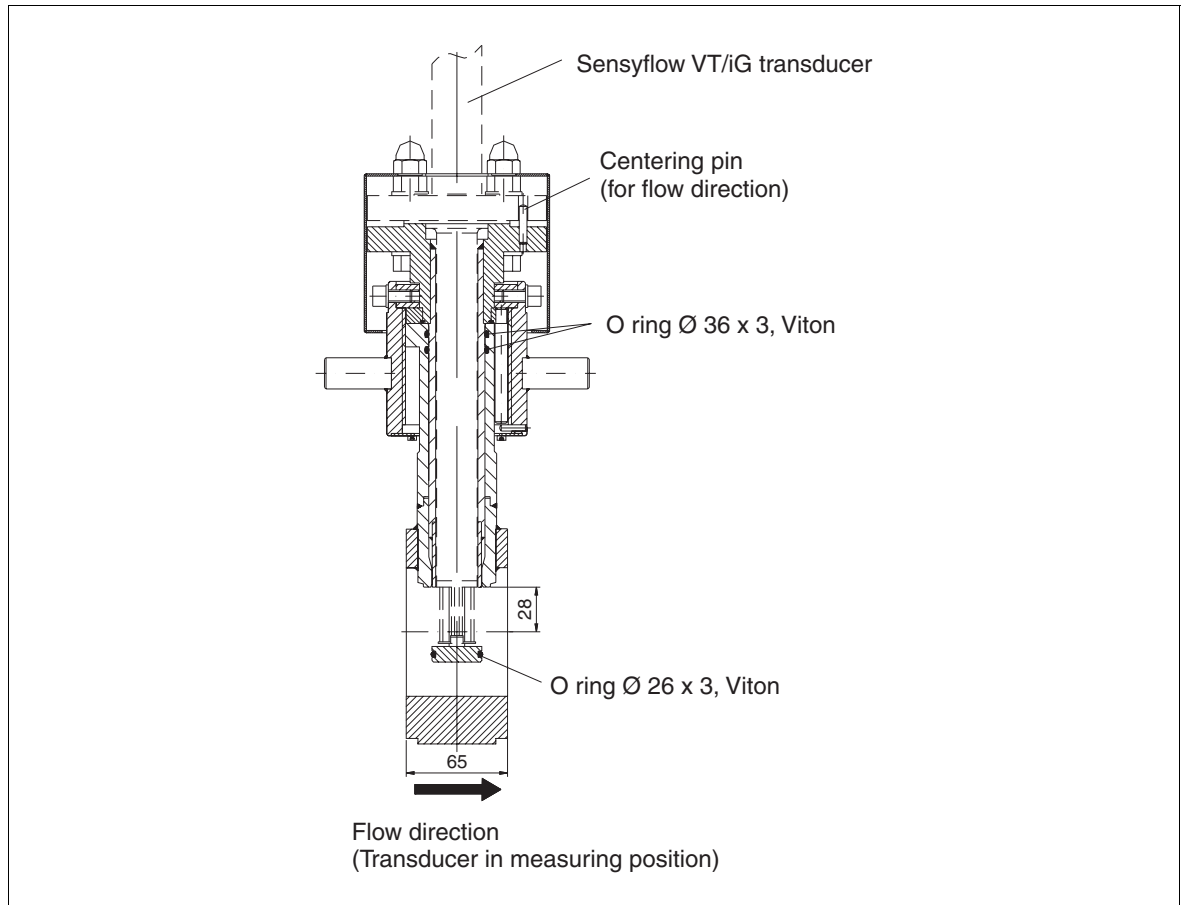

Fig. 4-12 Hot tap fitting in wafer configuration for DIN flange PN 40
- Replace the two internal Viton 36 x 3 mm O-rings of the fitting and the Viton 26 x 3 mm O-ring of the guide tube (see Fig. 4-12). Lightly lubricate the O-rings as well as the threads of the lock nut and slip ring of the guide tube. For oxygen applications, only approved O₂ fittings grease may be used (e.g., Krytox GPL-226).